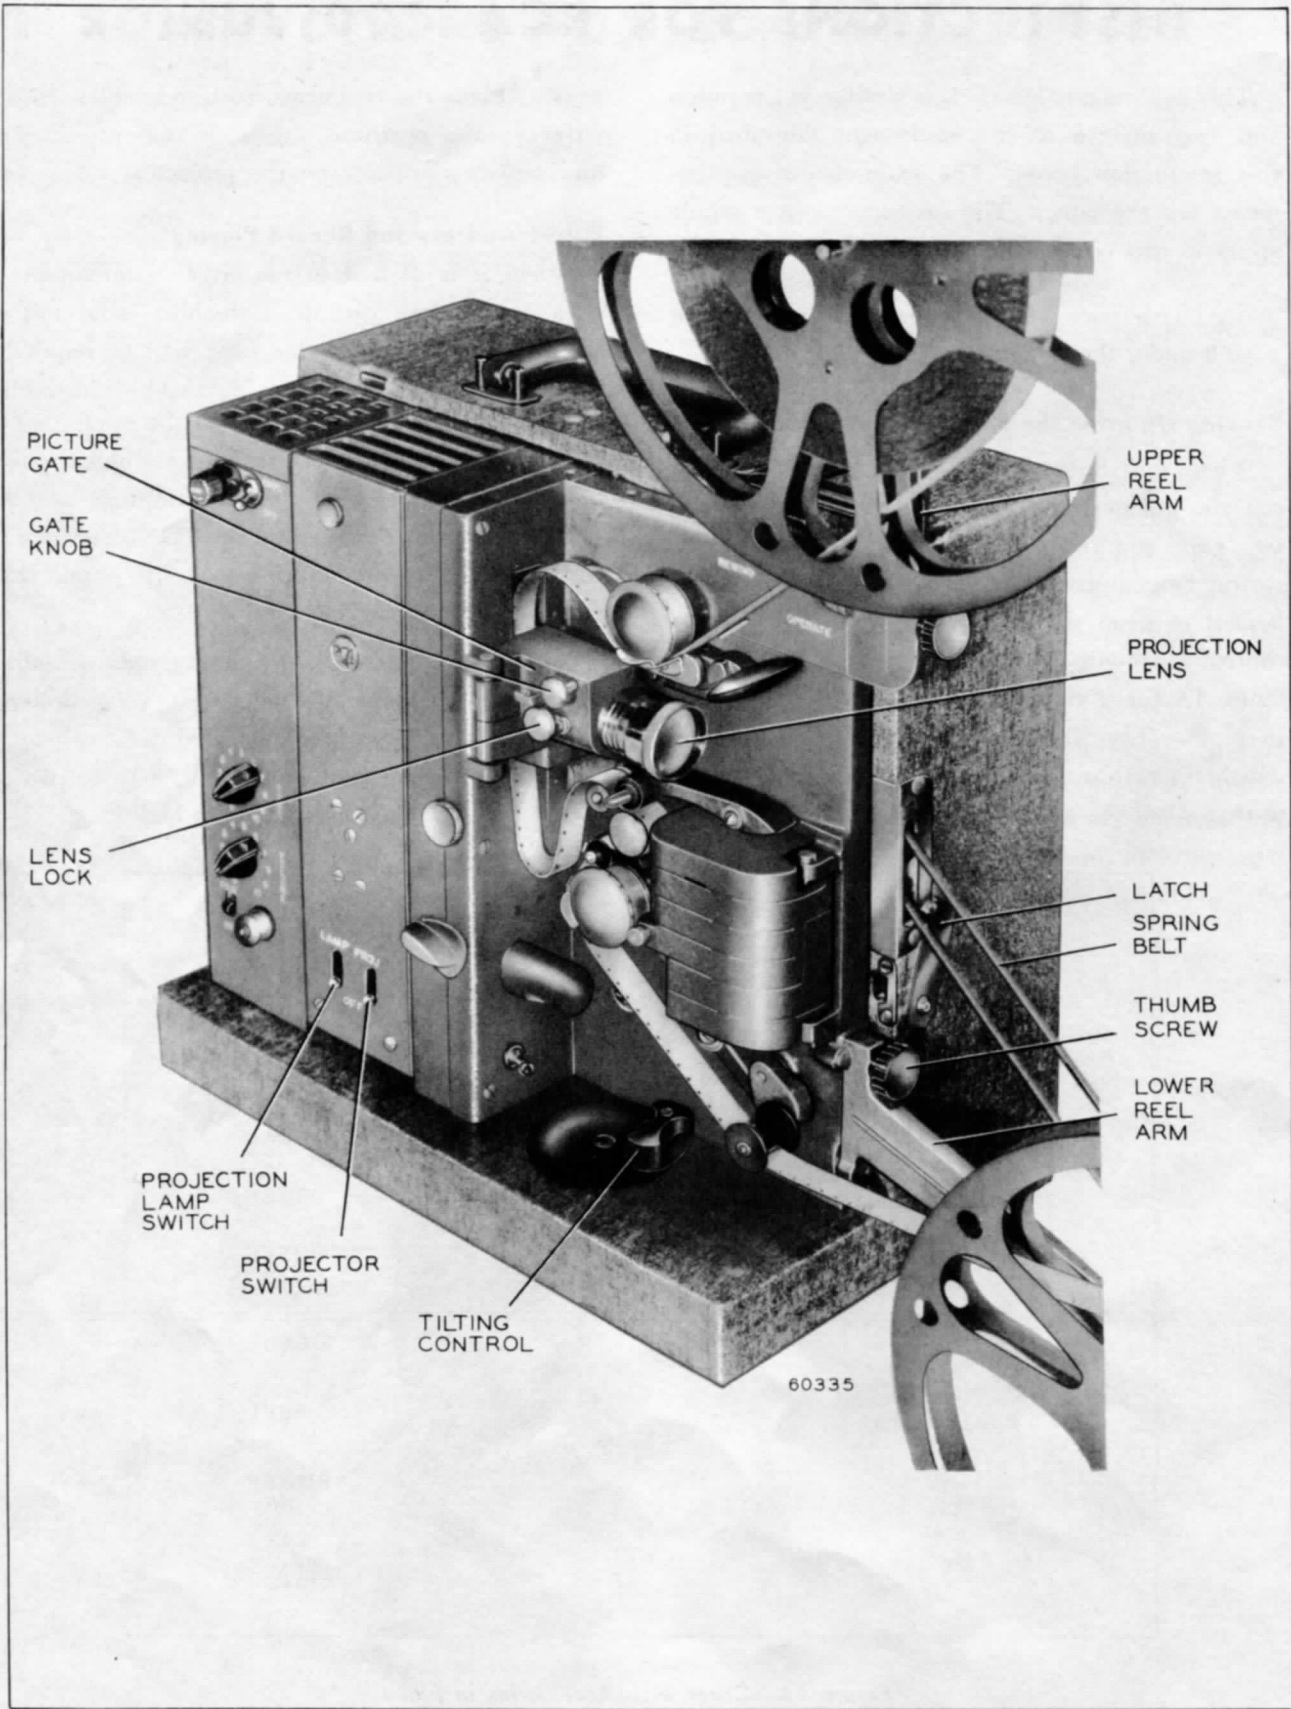

Figure 2—Setting Up
a. Place the projector on a sturdy table or stand (fig. 2) so that the distance from the front edge of the table to the projection screen is about five times the width of the screen. (This ratio holds for a 2-inch projection lens such as is furnished with the equipment.) Put the projector on the table, near its forward edge to allow the lower reel to operate freely.
a. Fasten the lower reel arm (fig. 2) with the thumbscrew. Release the latch, pull out the spring belt, and put it over the pulley at the end of the reel arm.
Preliminary focusing and certain other adjustments are best done before the projector has been threaded. (Fig. 2.)